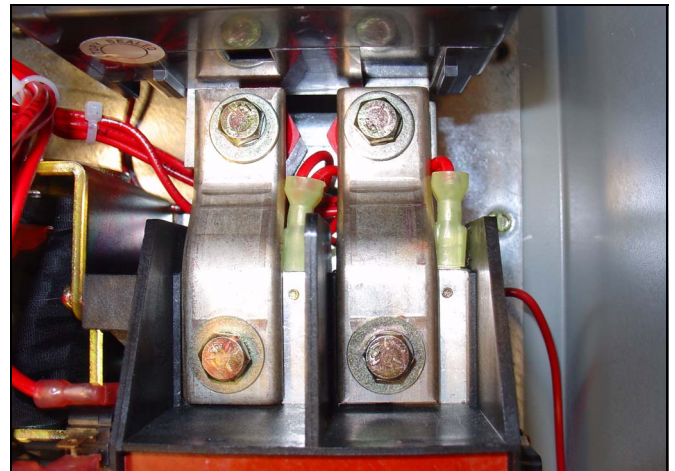

Figure 41. Stab Connections at the Service Entrance Breaker.
- Step 3:** Remove the two (2) bolts, lock washers, and flat washers securing the utility bus extension stabs between the contactor and SE breaker. Using a 7/16 in. wrench, nut driver, or socket and ratchet, remove the utility bus extension stabs (see Figure 41).